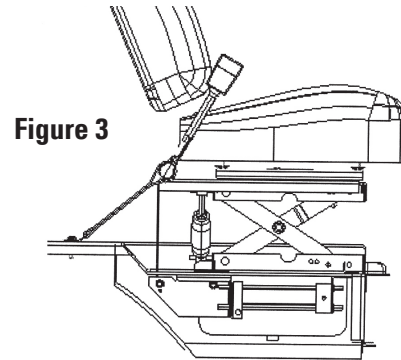

Figure 3
3. Position the unit in place. **See FIGURE 3.**
7. Torque each mounting bolt (4) on S4S to 35 to 40 ft.-lbs.